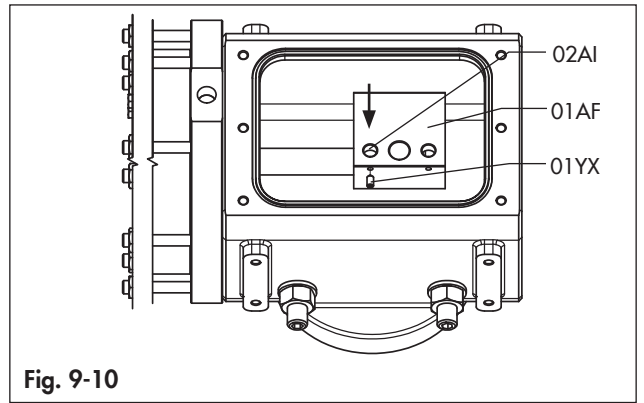

Fig. 9-10
- Unscrew the screw (01YX) inside the sliding block (01AF) (Fig. 9-10).
- Push down the pin (02AI) until it falls inside the housing (Fig. 9-10).